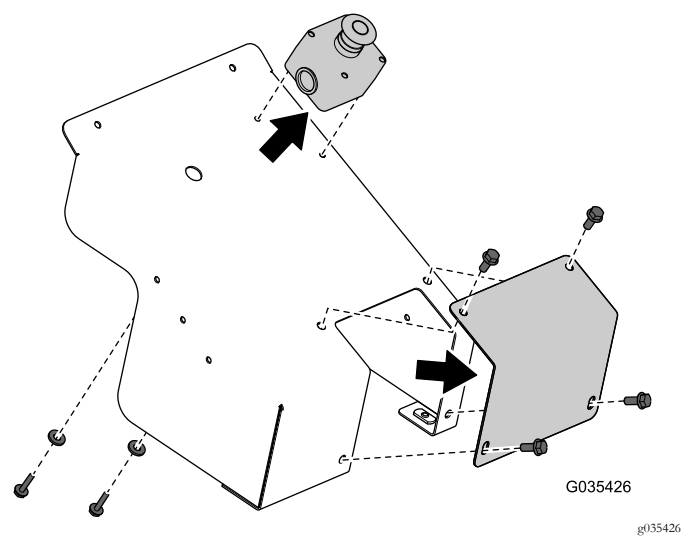

Figure 2
6. Remove the E-Stop button assembly and the manual override cover from the cover as shown in Figure 2.